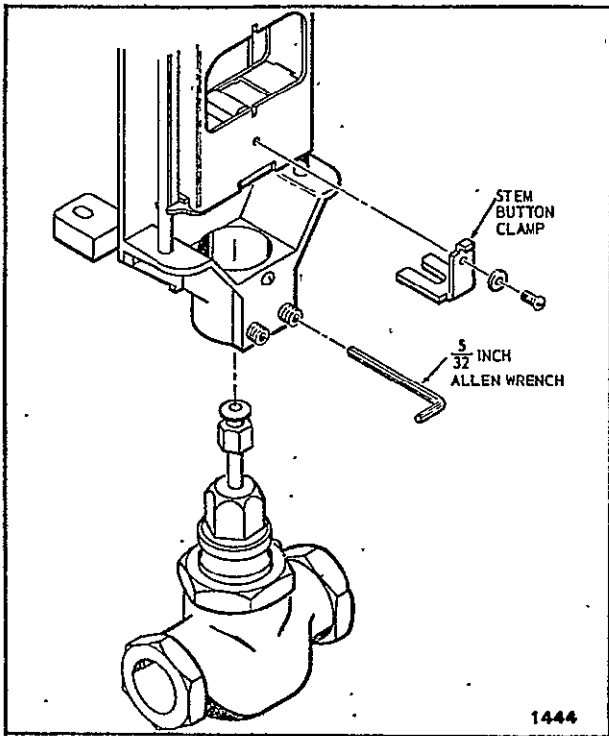
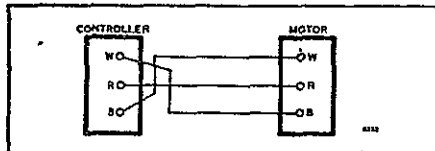
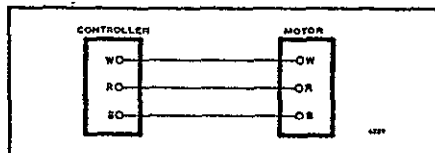

FIG. 4—ASSEMBLY OF THE LINKAGE TO THE VALVE.
Fig. 9—Typical modulating motor-controller wiring hookup for heating application with valve Ports A and B reversed.
Fig. 10—Typical modulating motor-controller wiring hookup for cooling application with valve Ports A and B reversed.
2. Loosen, if necessary, the 2 setscrews and slide the linkage over the valve bonnet (Fig. 4).
Fig 4—Three-way valve operation—coil bypass. Three-way valves maintain constant flow in piping. As the temperature requirements change, the volume of the fluid in the coil varies. For typical motor-controller wiring hookup see Fig. 9.
When Ports A and B are reversed, make series 90 motor and controller wiring as shown in Fig. 9 for heating applications or as shown in Fig. 10 for cooling applications.